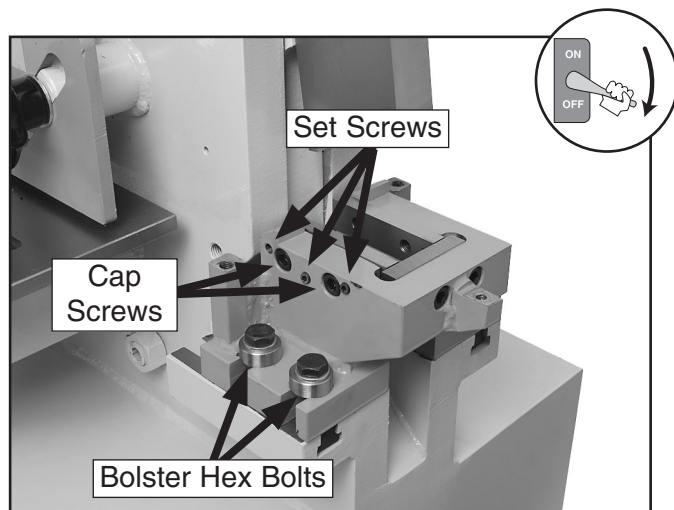

Figure 29. Notching side die set screw, cap screws, and bolster hex bolts.
6. Thread the side die adjustment set screws on both sides out 2–3 turns (see **Figure 29**), position the side dies into the bolster, then thread and fully tighten the cap screws through the bolster and into the die to hold them firmly against the bolster.
10. Loosen the bolster hex bolts (see **Figure 29**), adjust the bolster so that there is a clearance of 3mm between the top and front dies, then re-tighten the bolster hex bolts.